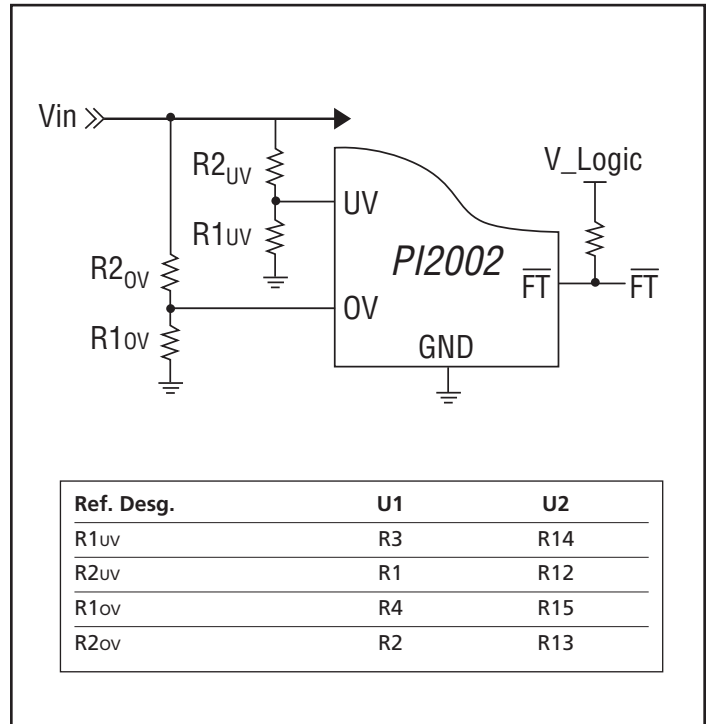

Figure 4 – UV & OV two-resistor divider configuration
2.1 UV and OV programmable resistors are configured for a 3.3 V V_{in} (BUS voltage) application in a two-resistor voltage divider configuration as shown in Figure 4. UV is set to 2.6 V and OV is set for 3.8 V, $R1_{ov}$ and $R1_{uv}$ are 2.00 K Ω 1%. If PI2002-EVAL1 is required to be used in a different V_{in} voltage application please follow the following steps to change the resistor values.